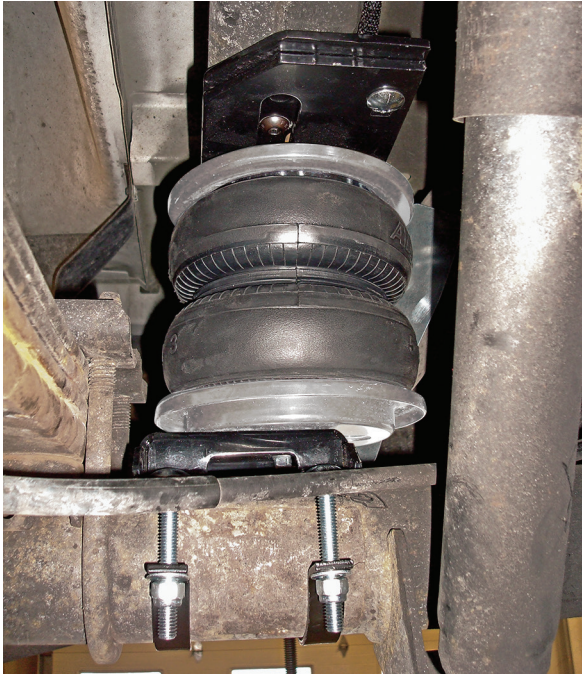

fig. 20
1. Figure 20 shows a front view of the right (passenger) side assembly.